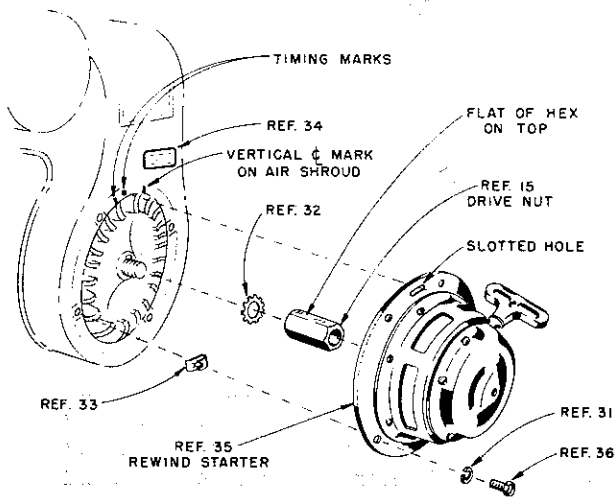

FIG. 2
2. Screw hexagon drive nut (Ref. 15) on to crankshaft, using a new lockwasher (Ref. 32). Tighten drive nut securely in place and locate flat of hex on top or perpendicular to the vertical centerline mark on air shroud (see Fig. 2).
3. Mount complete starter unit to the flywheel shroud, as shown in Fig. 2, using new speed nuts (Ref. 33), screws (Ref. 36) and lockwashers (Ref. 31). Slotted hole in starter base plate should line up with timing marks on flywheel shroud.
5. Mount instruction decal (Ref. 34) on flywheel shroud at location shown in Fig. 2.